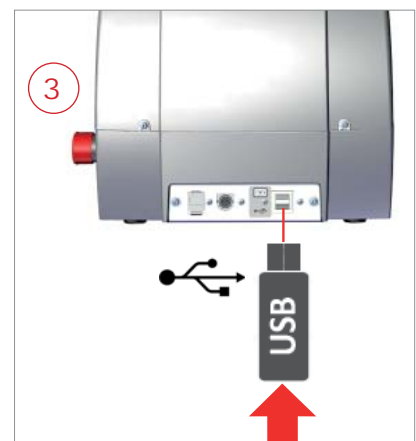

Fig. 20
- 3) Insert the USB PEN DRIVE into the special port on FUTURA PRO (Fig. 20). **Note: FUTURA has one USB port only.** Follow the instructions on the screen: tap the “RE-START FUTURA” button to re-start the FUTURA PRO machine.